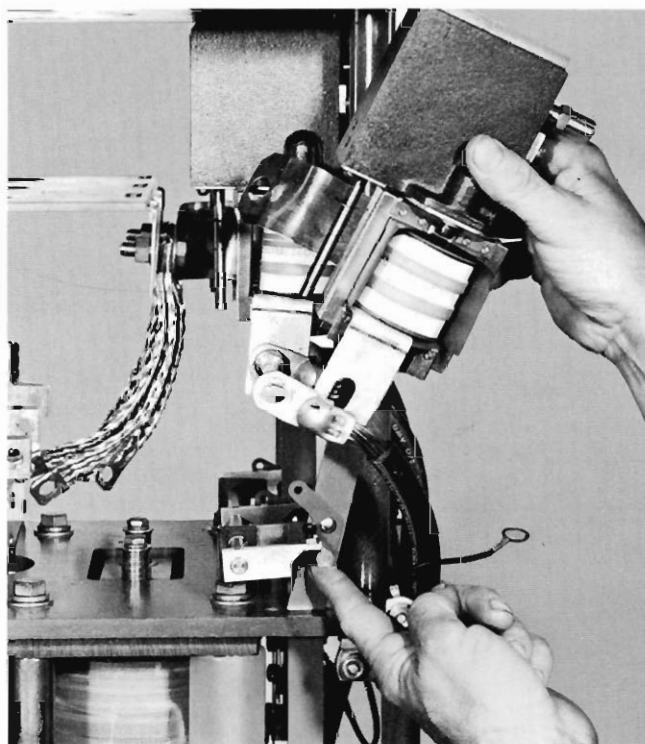

Figure 18.
5. While holding both the assembly housing and the plunger link (Figure 18), remove the entire assembly from the recloser.